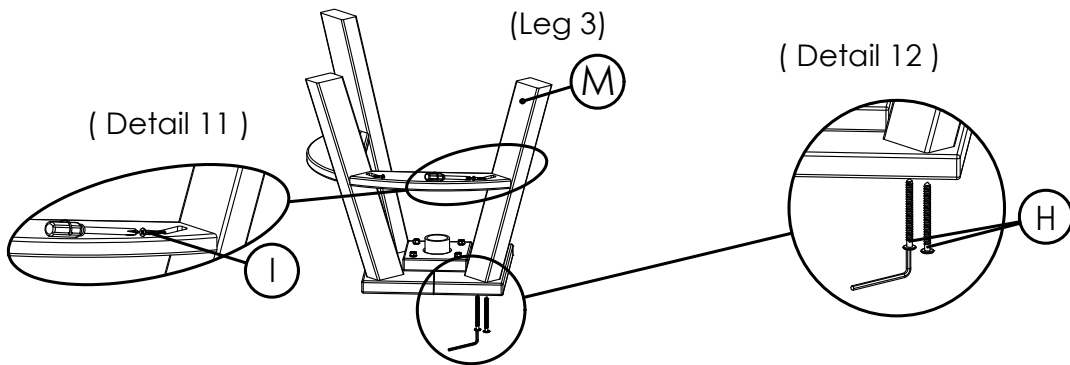
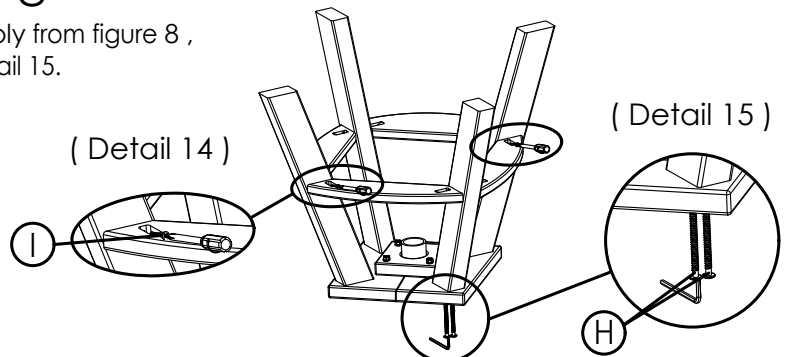

## Figure 8
## Figure 10
8 - Attach part ( M ), leg 3, to assembly from figure 7 as shown in Figure 8, see detail 11 and detail 12.
10 - Attach assembly from figure 10, to assembly from figure 8, as shown in Figure 10, see detail 14 and detail 15.
11 - Attach assembly from figure 3, to assembly from figure 10, as shown in Figure 11, see detail 16. Using grease tube (I) provided, lubricate both the metal stem and the inside of the nylon sleeve and then locate on center of base and press down.